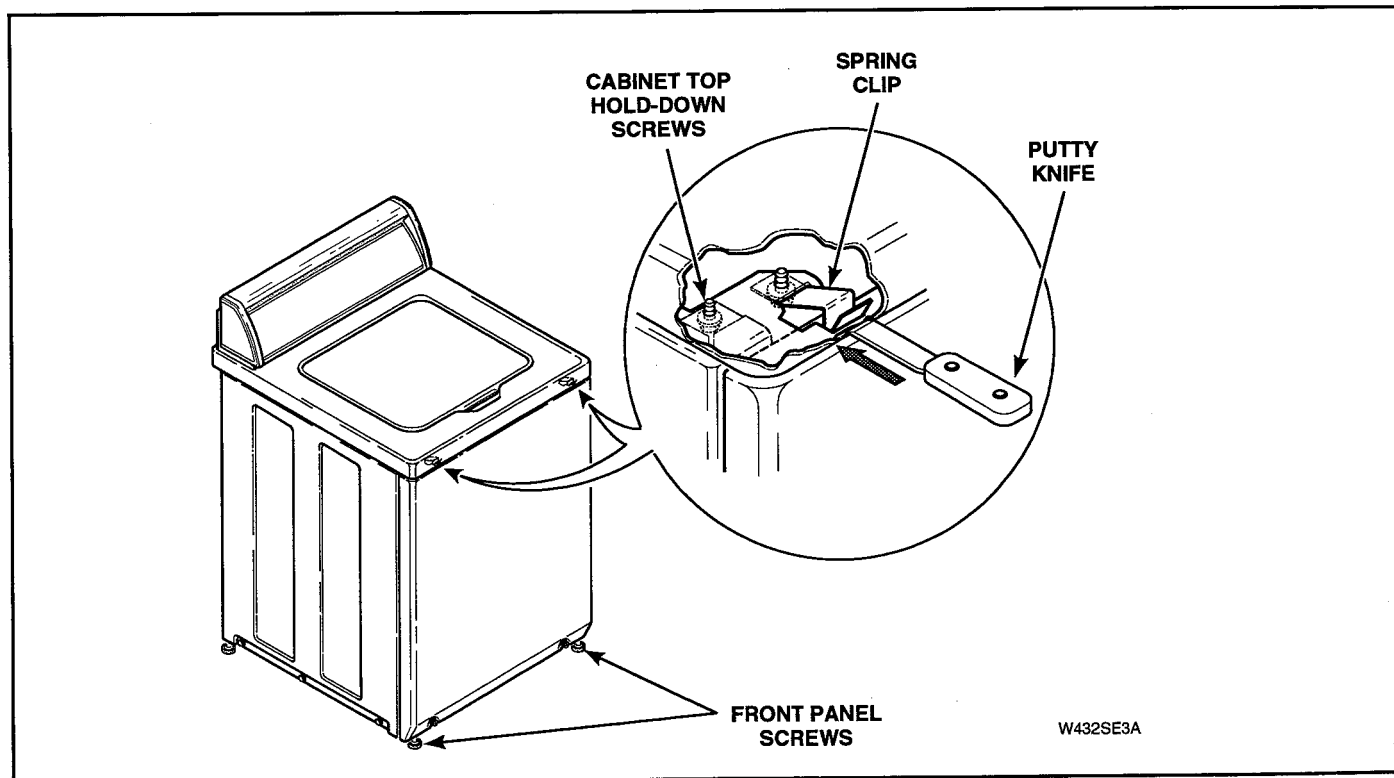

Figure 5-21
NOTE: Top edge of front panel is held in place by two spring clips located on bottom flange of cabinet top. See Figure 5-21.
- Insert putty knife between cabinet top and top edge of front panel (approximately three inches in from side). See Figure 5-21.
- Remove two cabinet top hold-down screws. See Figure 5-21.